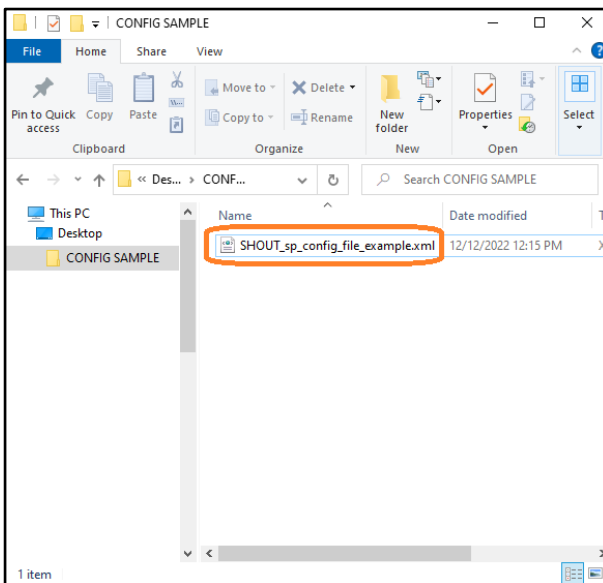

Figure 83: Find the XML file
SHOUT_sp_config_file.xml (see Figure 83).
- Right-click over **SHOUT_sp_config_file.xml** (see Figure 83).